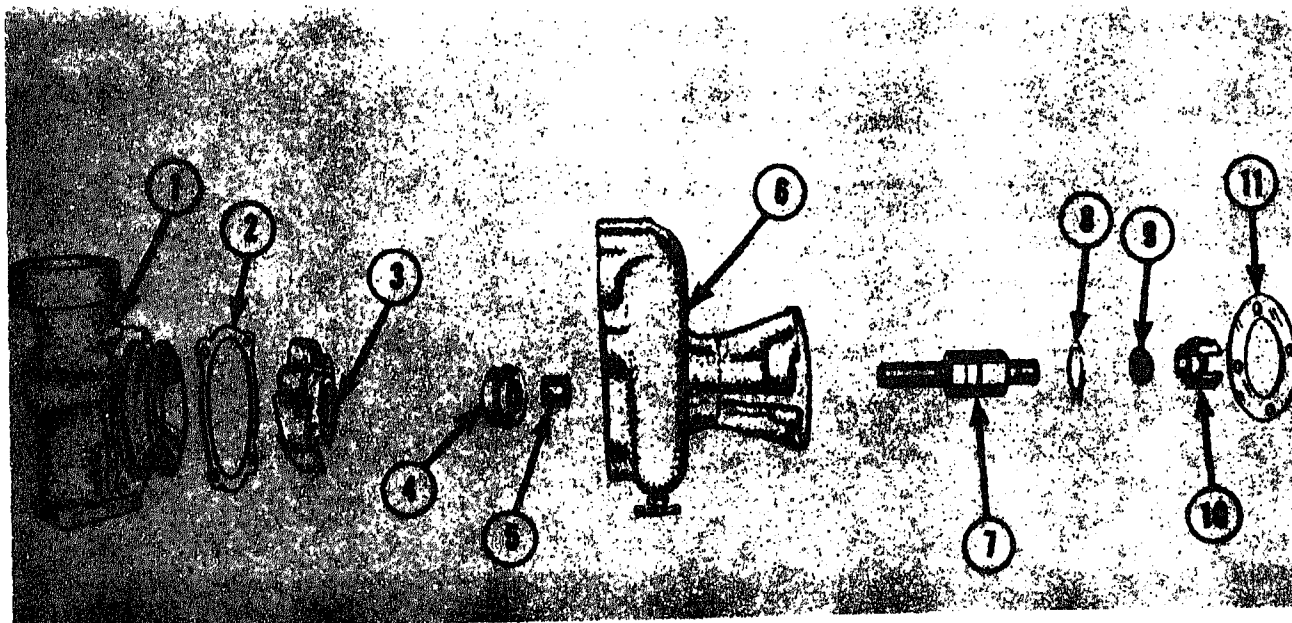

Fig. 8-1-1. Supercharger-driven water pump
1. Remove mounting capscrews, lockwashers, gasket (2, Fig. 8-1-1) and cover (1) from water pump body.
2. Pull drive coupling (10) from shaft (7).
3. Remove rubber washer (9).
4. Remove outer snap ring (8) from coupling end of pump body.
5. Support pump body on its mounting flange in arbor press and press bearing and shaft assembly (7) from impeller (3) and pump housing.
6. Remove carbon face seal (4) from pump body (6).
Support pump body (6, Fig. 8-1-1) on its cover mounting
9. Press impeller (3, Fig. 8-1-1) on shaft. Face of impeller hub should be 0.872/0.878 in. [22.1488/22.3012 mm] below cover mounting face on body (6).
10. Assemble lockwashers, capscrews and new gasket (2) to water pump cover (1).